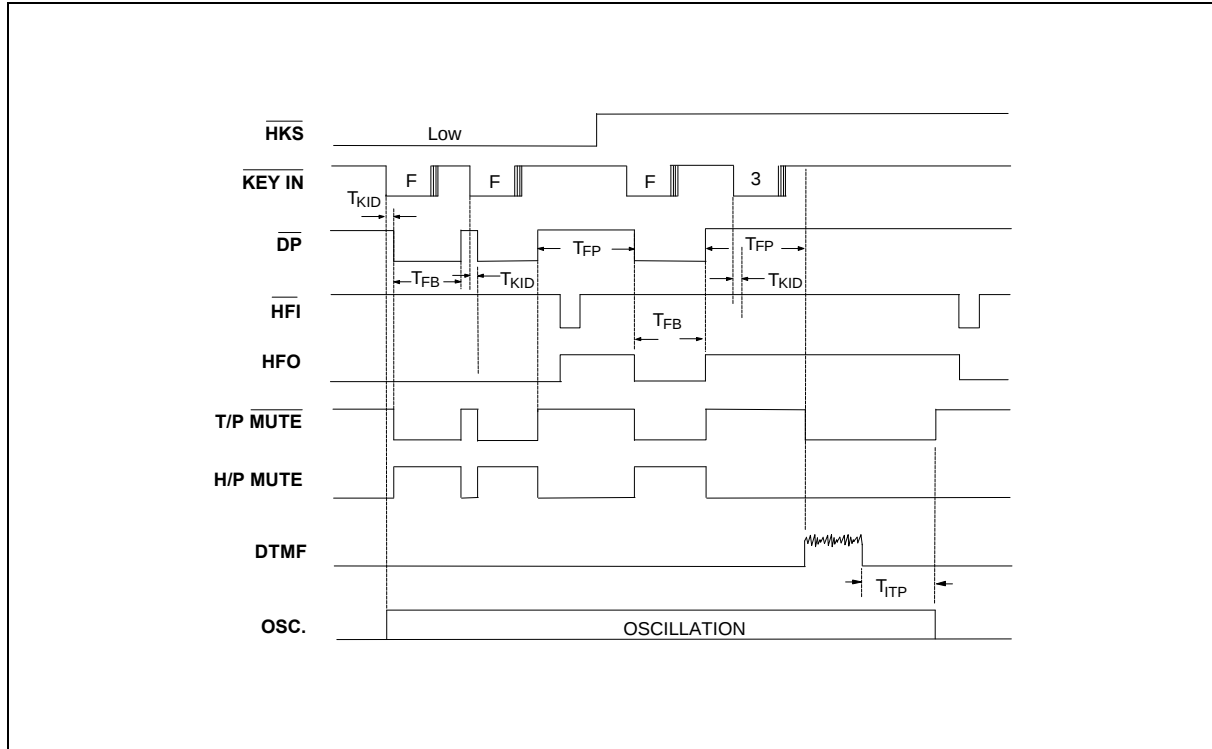

Figure 6. Flash Timing Diagram
- The flash function timing diagram is shown in Figure 6.